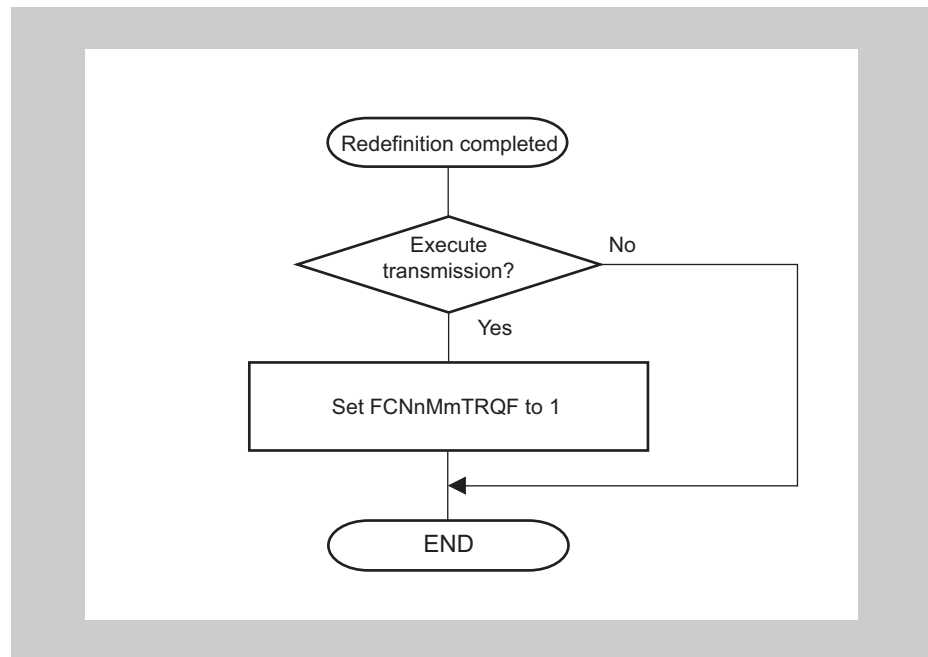

Figure 20-4 Setting Transmission Request (FCNnMmCTL.FCNnMmTRQF) to Transmit Message Buffer after Redefinition
- Caution 2. When a message is transmitted, the transmission priority is checked in accordance with the ID, IDE, and FCNnMmSTRB.FCNnMmSSRT set to each transmit message buffer to which a transmission request was set. The transmit message buffer having the highest priority is selected for transmission. If the procedure in Figure 20-4, Setting Transmission Request (FCNnMmCTL.FCNnMmTRQF) to Transmit Message Buffer after Redefinition to Transmit Message Buffer after Redefinition, is not observed, a message with an ID having the highest priority may not be transmitted after redefinition.